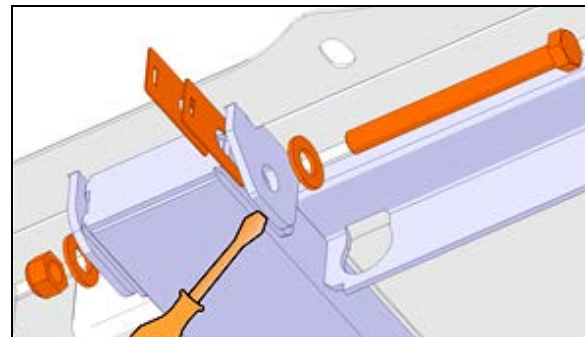

FIGURE 26: SHIM INSTALLATION, TRANSVERSE SCREW. ARRANGEMENT MAY VARY
- Shim arrangement may vary and may be stacked on both sides (Figure 26).